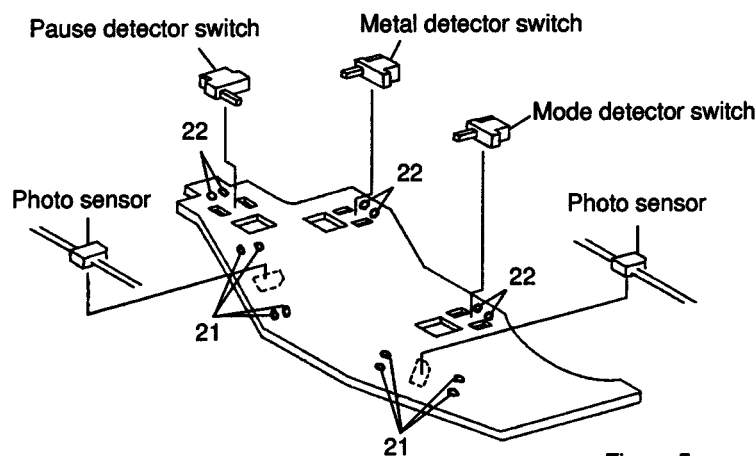

Figure 5
- (1) Remove eight solders 21 as shown in Figure 5.
- (2) Remove the photo sensor from the photo P.C.Board as shown in Figure 5.
- (3) Solder the legs so that the photo sensor is set as indicated by [ ] in Figure 5.
- (1) 8ヶ所の半田21を外し、フォトセンサーをフォト基板より外します。(図5参照)
- (2) 良品のフォトセンサーを図中の [ ] と同じ方向になる様に半田付けします。(図5参照)
- (1) Remove six solders 22 with which the switch is fixed as shown in Figure 5.
- (1) スイッチを止めている6ヶ所の半田22をそれぞれ外します。（図5参照）